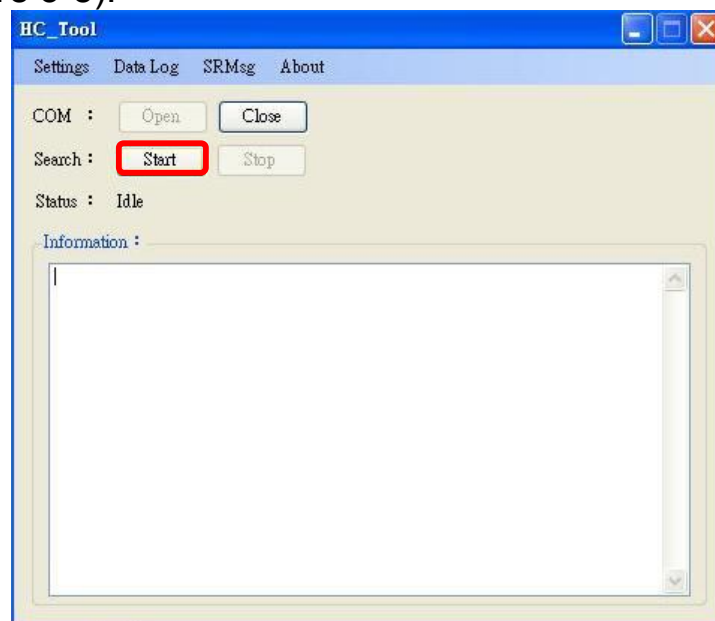

Figure 3-8: Click “Start” button
Step 2: Click the “Start” button to search HART device with HART bus (Figure 3-8).